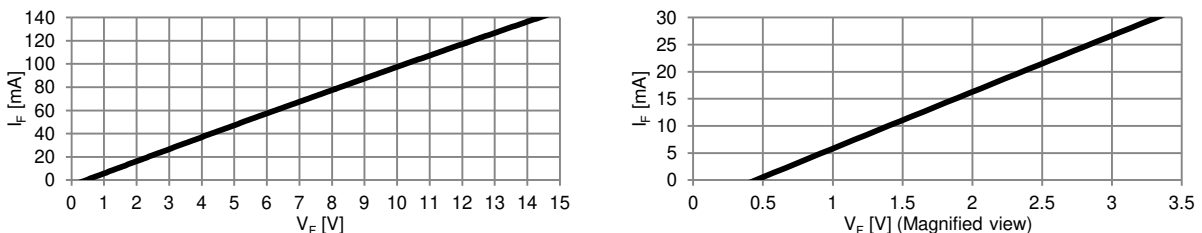

Figure 2. Built-in Bootstrap Diode V_F-I_F Characteristic (@Ta=25°C)
- The characteristics of bootstrap diode are described in Figure 2.